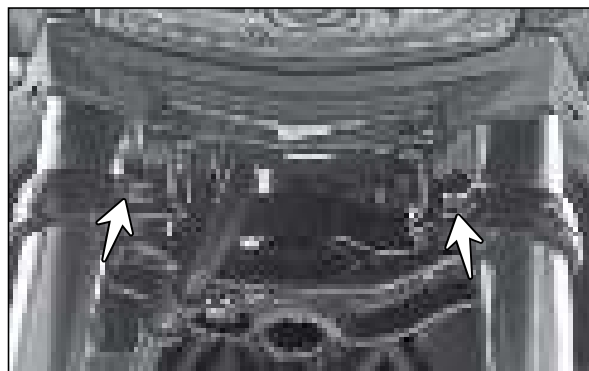

Fig. 6.49
- Loosen the hexagonal screws (M10x40 - 2 Nos.) of lower bracket complete (fork lower mounting). (Fig. 6.49)